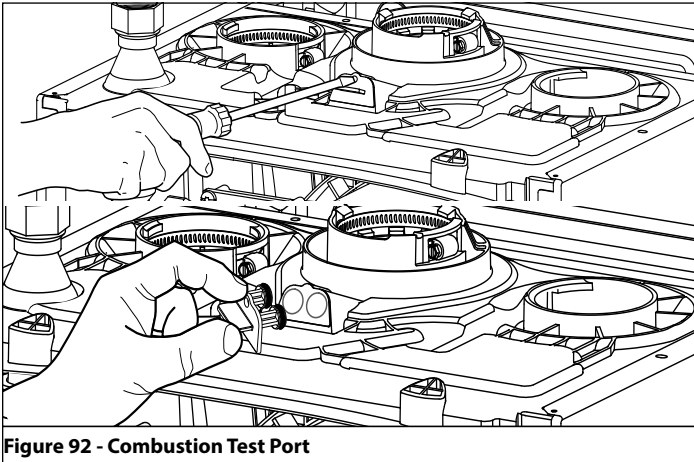

Figure 92 - Combustion Test Port
5. Reinstall the combustion test port - see Figure 92.